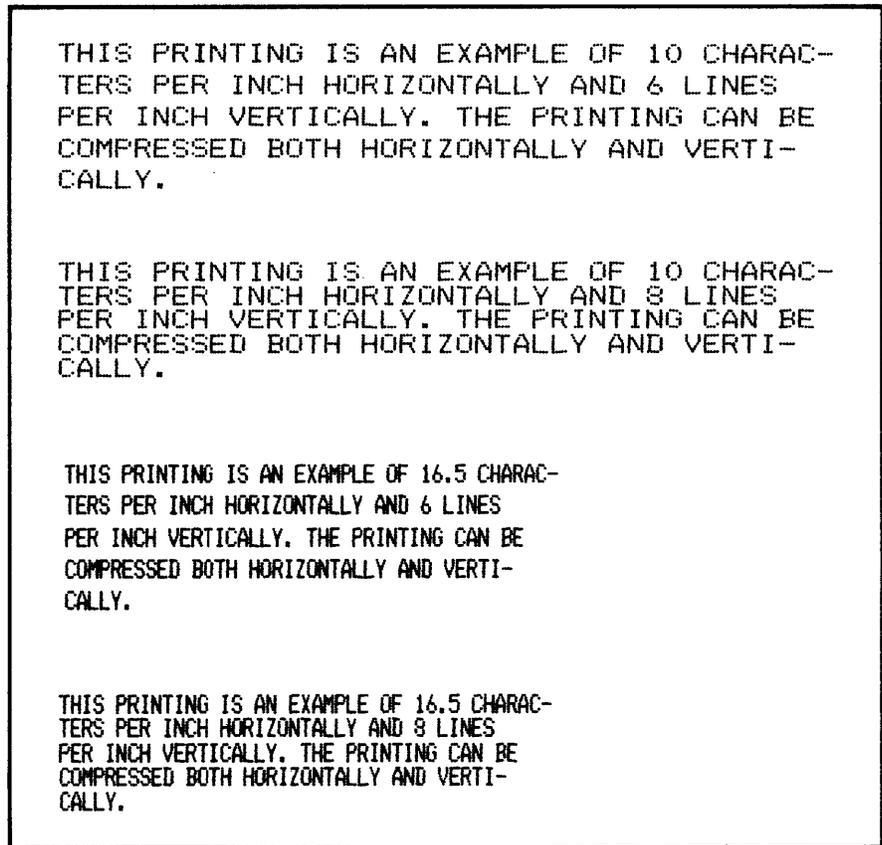

FIGURE 2 — Printing Examples
- Compressed Character Printing† A full 132-column width may be printed on a 204 mm (8 inches) line length. This option is available only with the VFC or FLC option. Print density is 16.5 characters per 2.5 cm (inch). See Figure 2.